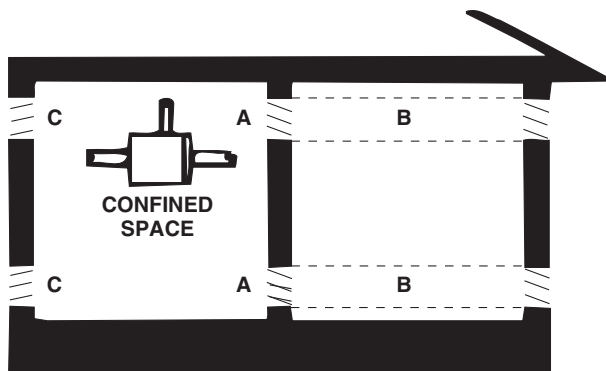

Figure 3. Confined Space Combustion Air Openings (Refer to Table 5)
- For confined space installation of standard units, provide openings (depending on the combustion air source) near the floor and ceiling for ventilation and air for combustion, as shown in Figure 3 and as listed in Table 5.
*See Figure 3.